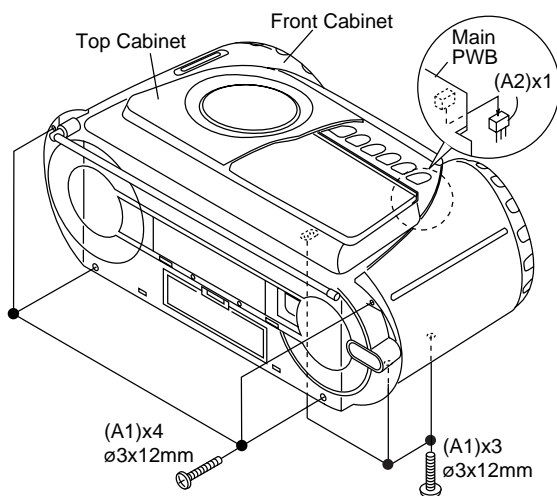

Figure 4-1
1. Remove the front cabinet. (Refer to Fig.4-1 on page 4, "Disassembly method".)
3. Insert the dial pointer from (A) of the top cabinet so that it engages with the drum gear.
4. Fully turn the drum in the opposite direction of (B) and set it to the FL marks.